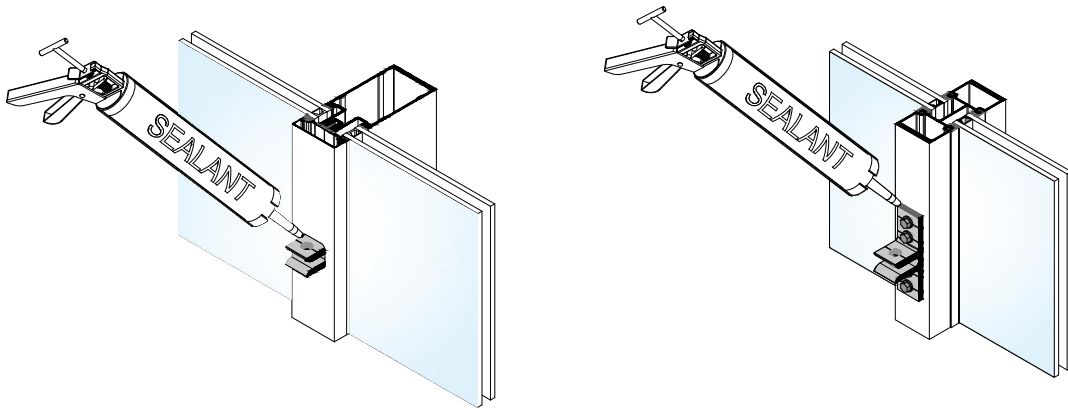

Fig. 6.1
- A. Align snap cover over bracket and snap into place using a wood block and mallet. Apply sealant around opening at bracket location. See **Fig. 6.1**